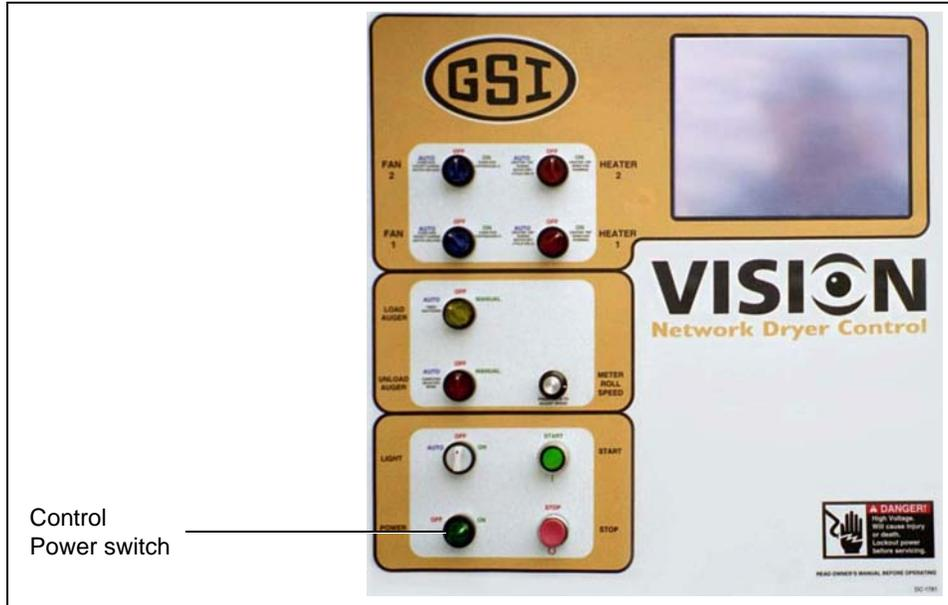

Figure 1
1. Cycle the Control Power switch. The Vision computer will start. (See Figure 1.)